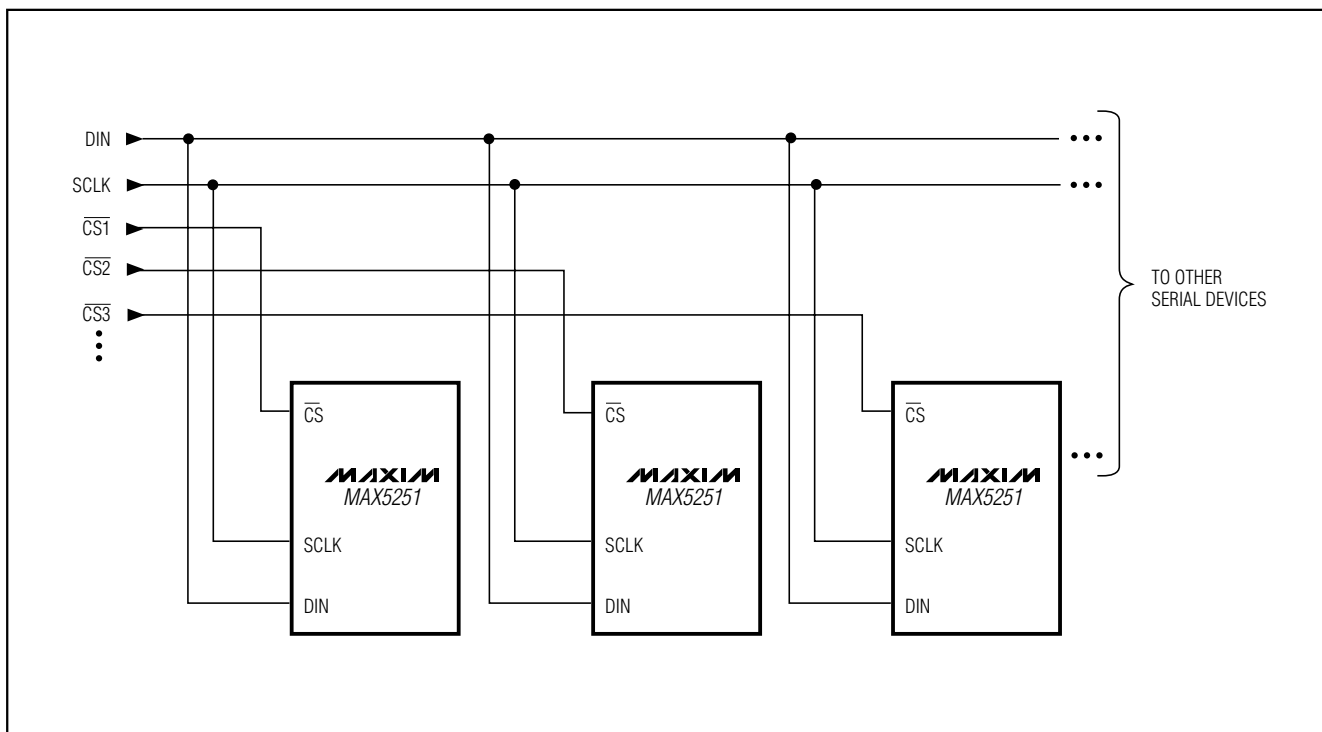

Figure 8. Multiple MAX5251s Sharing a Common DIN Line
Figure 8 shows an alternate method of connecting several MAX5251s. In this configuration, the data bus is common to all devices; data is not shifted through a daisy chain. More I/O lines are required in this configuration because a dedicated chip-select input (CS) is required for each IC.